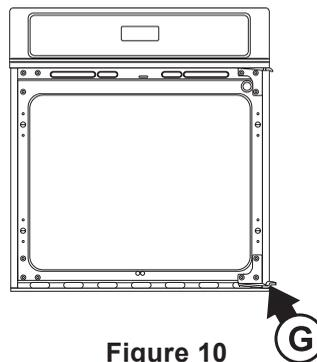

Figure 10
3.2.4. Remove the threaded pin from left side lower hinge (see G, Figure 10). Save the threaded pin for reassembly later.